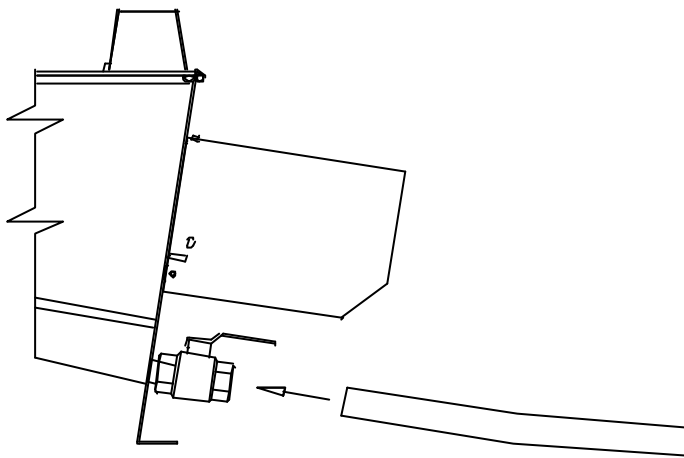

Figure 7: Connecting the water hose.
- III. Connect one end of the hose to the water valve and put the other into a drain. See figure 7: Connecting the water hose.